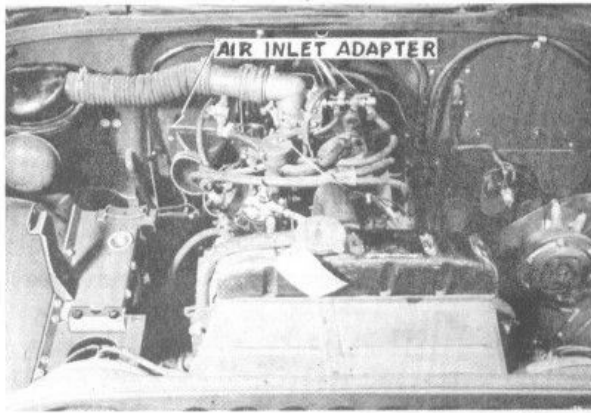

Figure 6
2. Use the tapered adapter as a template to locate and drill four holes with a No. 7 drill (.201 dia.) and attach the tapered adapter to the engine side of the firewall and the straight adapter to the passenger's side at the same time, using four No. 10-32 x 1/2 Fil. Hd. machine screws, lockwashers and nuts (See Figure 6).